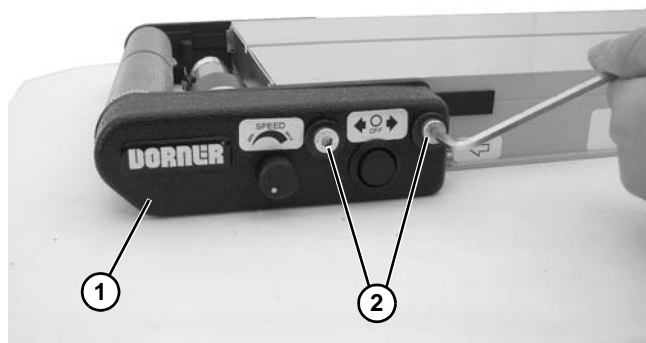

Figure 70
2. Remove inframe drive side cover (**Figure 70, item 1**) by removing two head plate fastening screws (**Figure 70, item 2**).